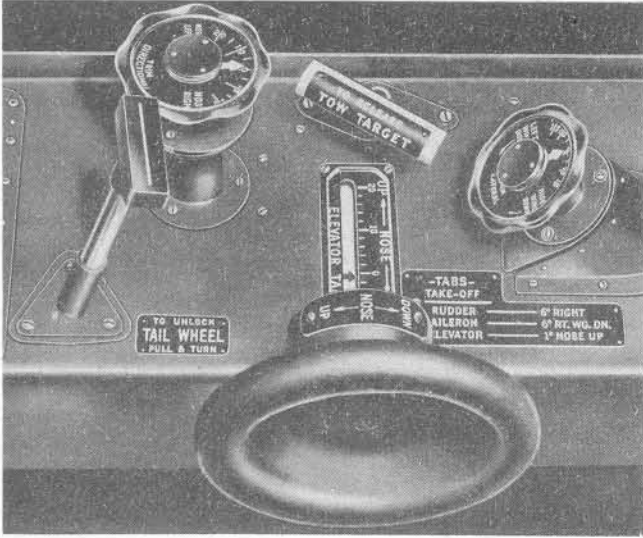

Figure 24—Trim Tab Controls and Tail Wheel Lock
f. TRIM TAB CONTROLS.—Trim tabs are provided on the left wing aileron, on the elevators, and on the rudder to permit control forces to be trimmed to comfortable values under all normal operating conditions. Refer to figure 24.